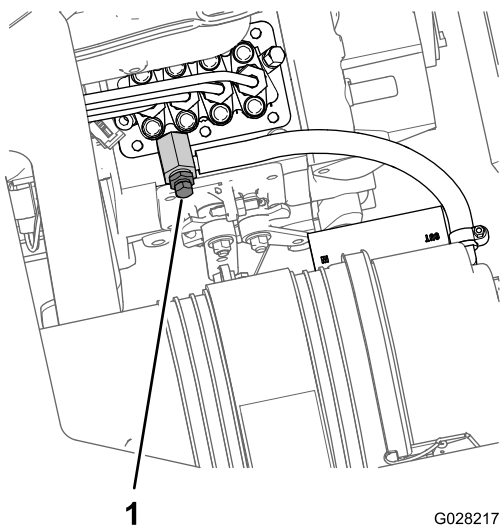

Figure 76
8. Align the drain pan under the fuel-injection pump portion of the engine (Figure 76).
9. Open the air-bleed screw at the fuel-injection pump (Figure 76).
11. Leave the key in the ON position until a solid stream of fuel flows out around the bleed screw (Figure 76).
12. Tighten the bleed screw (Figure 76) and turn the key to the OFF position.